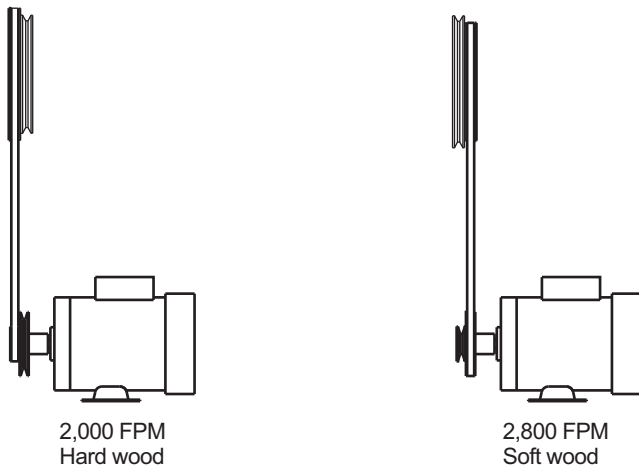

Figure 4 – Blade speeds
Refer to Figures 4, 5, 6, 7 and 8.
- To change blade speed, position V-belt in proper configuration (See Figure 4). Reposition and tension V-belt as described in the next section.
Refer to Figures 4, 5, and 6.
- See figure 4, Blade Speeds, for recommended pulley and belt settings.